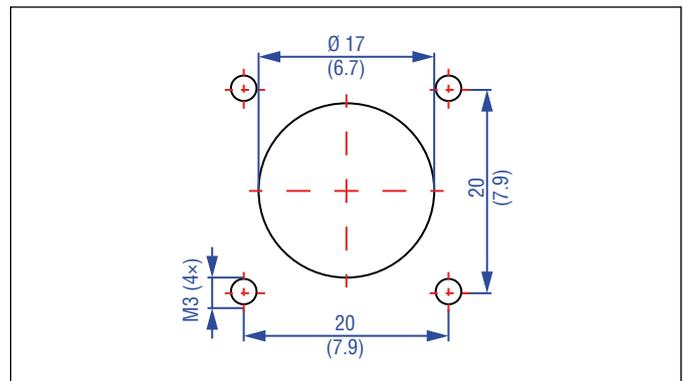

Fig. 55: Panel cut-out dimensions for the type »W« M12 square panel mount connector
- Insert the contact carrier in the desired position into the metal flange until it snaps into place. The dimensions for attaching the metal flange to the cylinder are shown in Fig. 55.